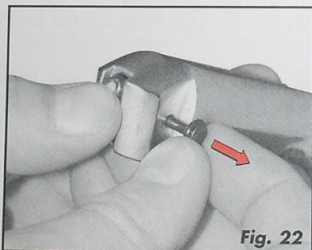

Fig. 22
8. While holding the firing pin and firing pin spring in place, remove the firing pin retaining pin from the bolt assembly (Fig. 22).
8. Insert the firing pin retaining pin in its seat, so as to block the firing pin (Fig. 22).